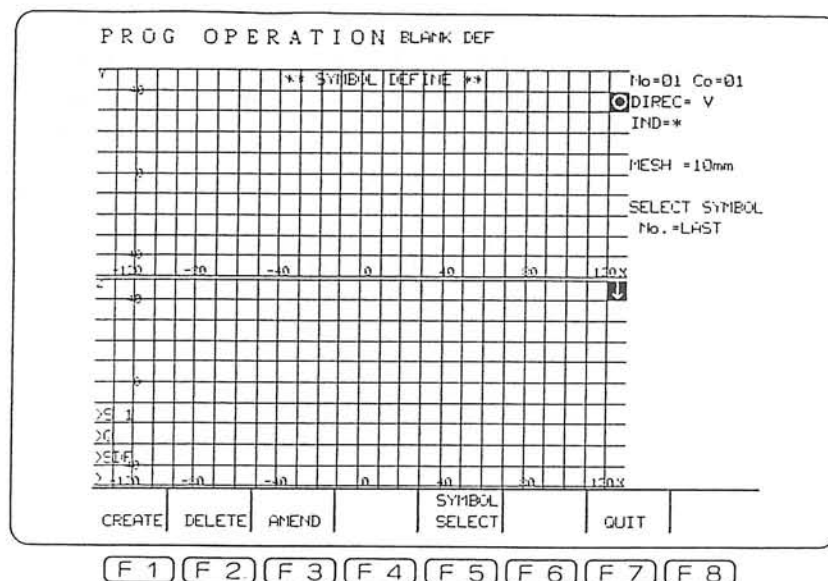

Fig. 4-16 Initial Display for SYMBOL DEFINE
When the function key [F3] (SYMBOL DEFINE) is pressed, the on-screen display will be as shown in Fig. 4-16.
- ① At the initial display for SYMBOL DEFINE (Fig. 4-16), press the function key [F5] (SYMBOL SELECT). The function key [F5] (SYMBOL SELECT) moves the pointer through the symbol register sequence. Each time this key is pressed, the pointer proceeds to the next symbol, and that symbol is highlighted. Normally the pointer is located at the end of the register sequence.
- ② At the initial display for SYMBOL DEFINE (Fig. 4-16), press the function key [F1] (CREATE).